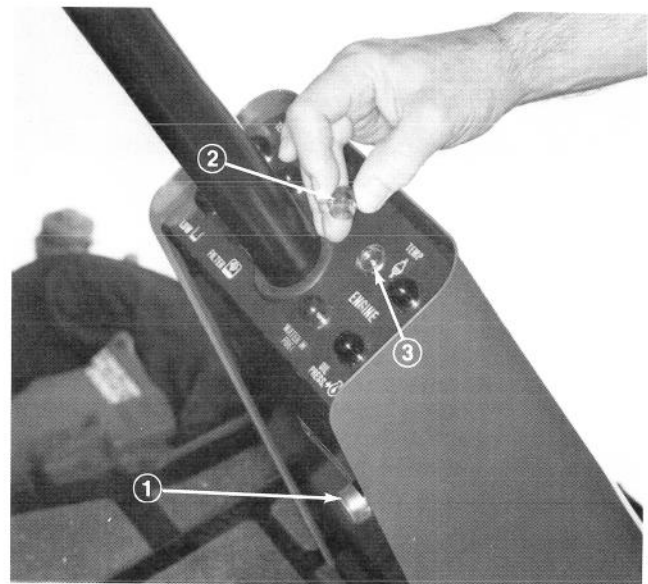

Figure 14
1. Apply parking brake, turn ignition key ON. Push warning indicator light button (Fig. 14). All lights should illuminate and the buzzer sound.
2. If a light is burned out, unscrew appropriate lens (Fig. 14 Inset) and install a new bulb.